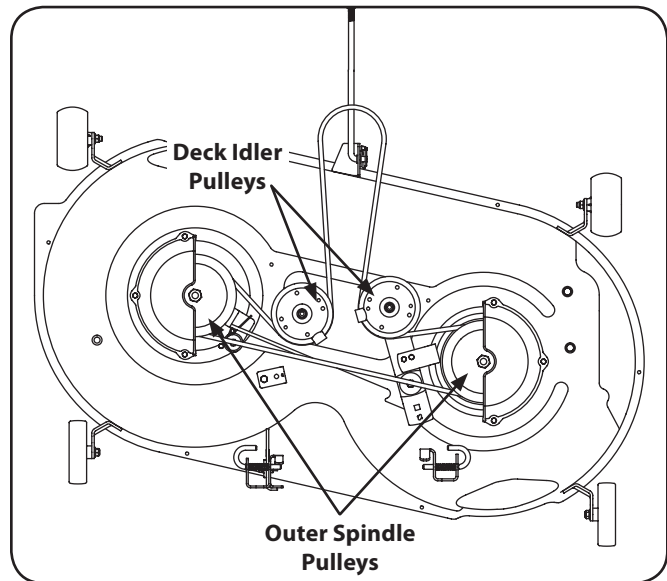

Figure 7-11
7. **On 46" Decks:** To place the new belt begin by routing the belt around the two outer spindle pulleys as shown in Figure 7-11.
8. Then route the belt around the two deck idler pulleys as show in Figure 7-11.